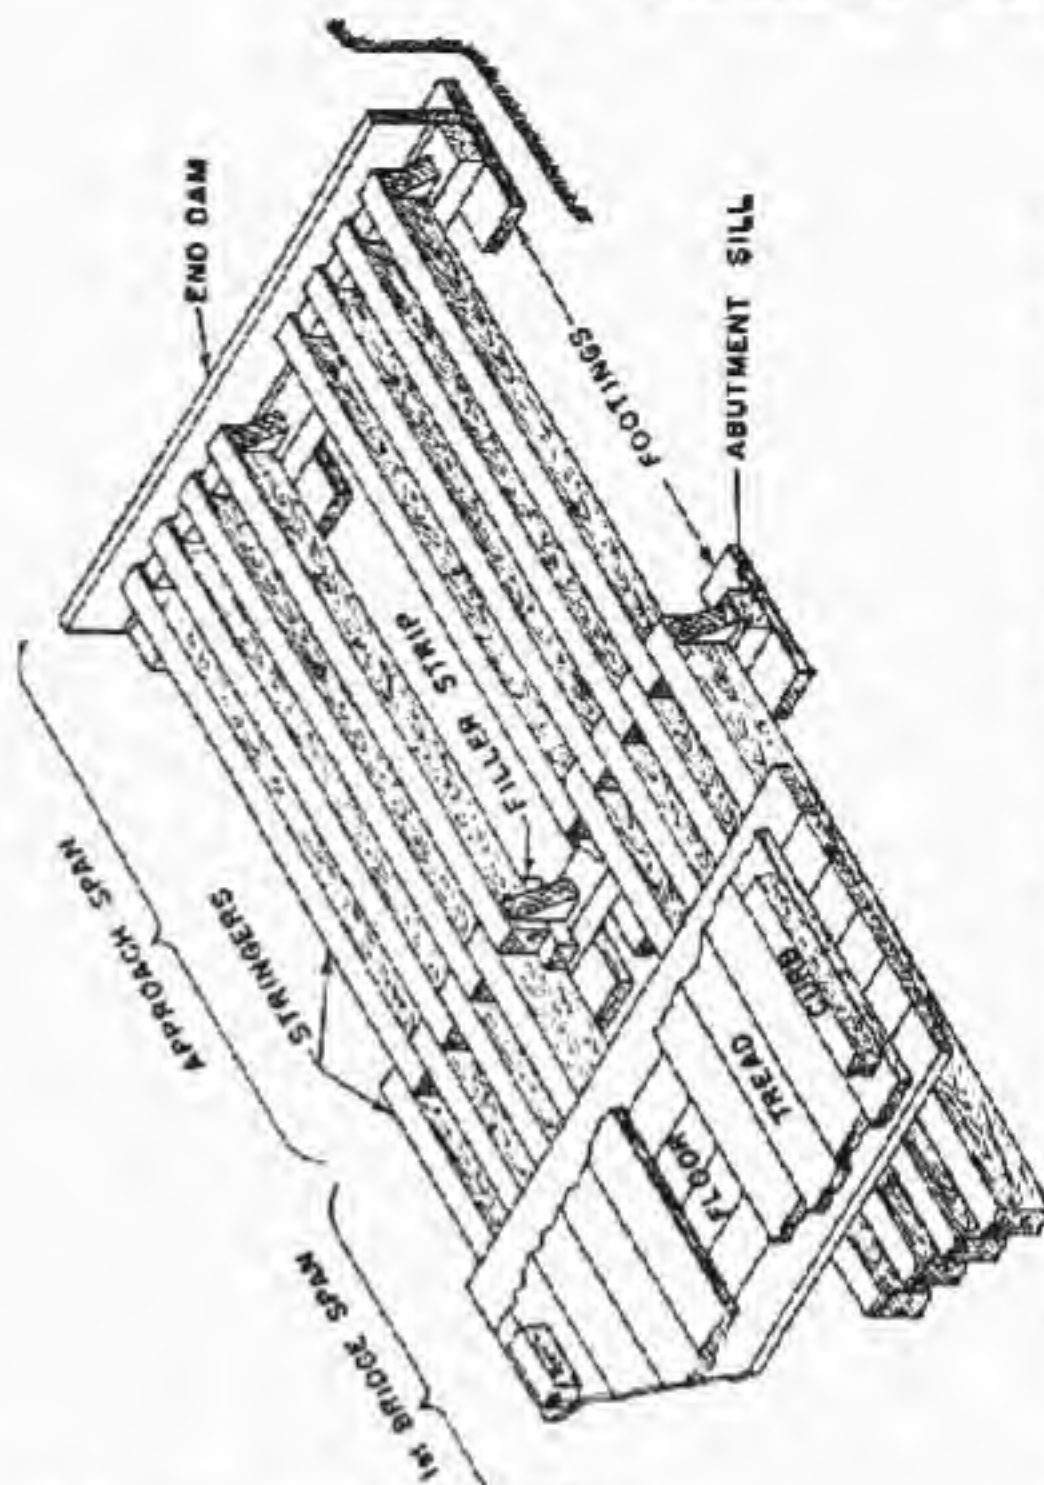

FIGURE 114.—Abutment showing approach span used for soft road-way approach.
- h. **End dam.**—Plank at abutment of bridge, used to hold earth in place behind abutment. (See fig. 114.)
- i. **Footing.**—Piece of wood used beneath supports to give added bearing surface on ground. (See fig. 114.)
a. *The simple stringer bridge* is usually short. It consists of three elementary parts: two abutments, a single span of stringers, and a floor. Two types of abutments are used, one for use with soft approach roadways, the other for use with firm roadways. (See fig. 114.) Every engineer soldier should know how to construct a simple stringer bridge. Trestle bridges are merely a succession of simple spans in which the trestles take the place of abutments. Timber stringers are seldom used in spans of over 15 feet or steel stringers in spans of over 25 feet.